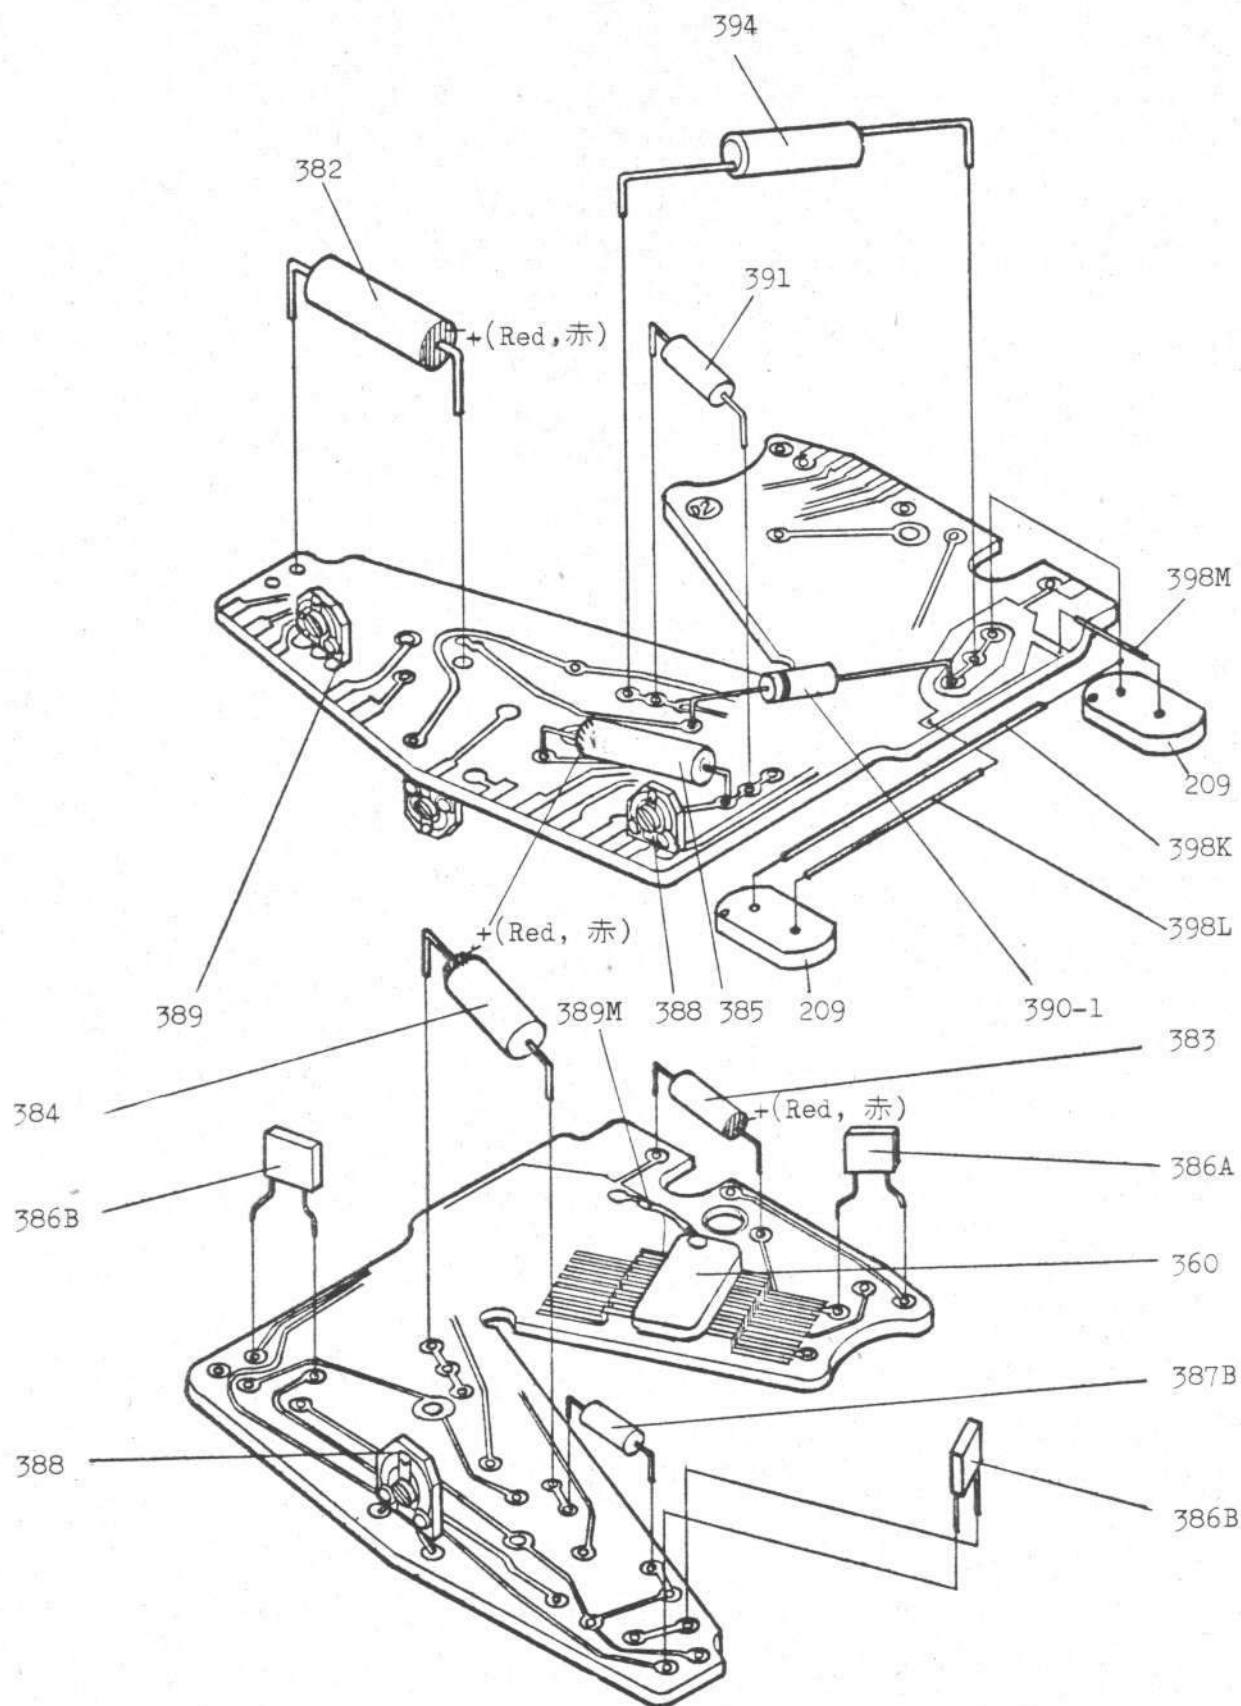

Fig. 7
7.4 Replacement of IC printed circuit #380-1 unit (Fig.6, Fig.7, Fig.8 and Fig.9)